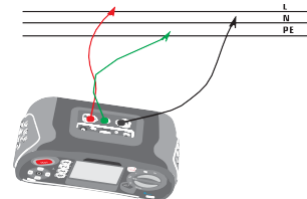

Figure 15 RCD Measurement-Test lead connection
4. Connect test leads as shown in the figure 15.
4. Connect the test leads as shown in figure 15.